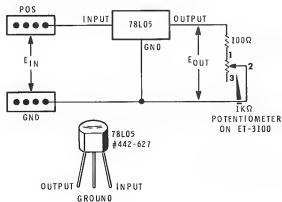
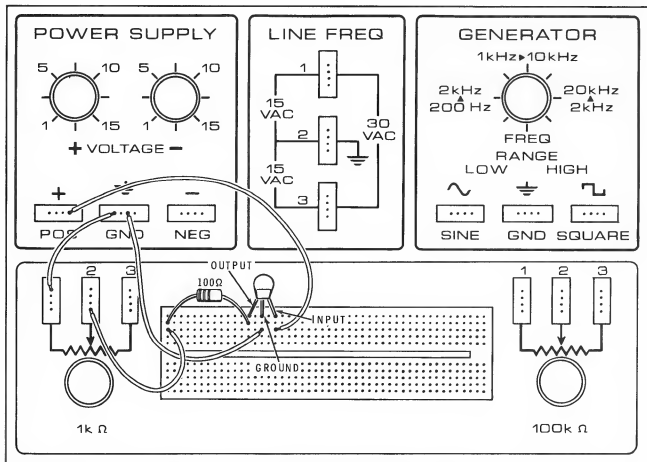

Figure 4-79
Figure 4-80
1. With the ET-3100 Experimenter turned off, construct the circuit shown in Figure 4-79. A wiring diagram is shown in Figure 4-80. Set the "+" voltage control to minimum.